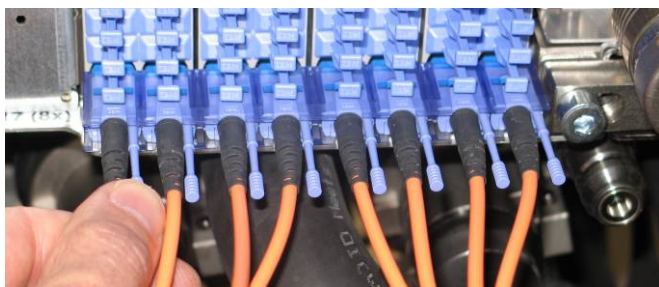
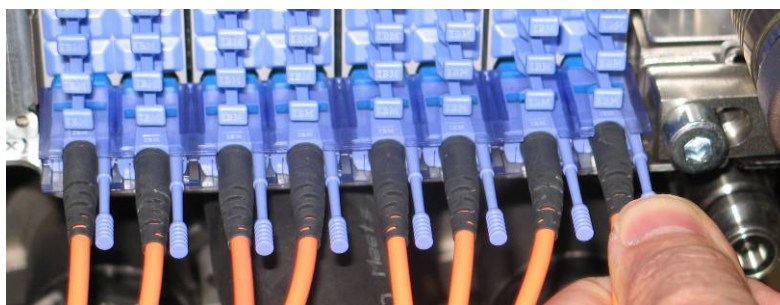
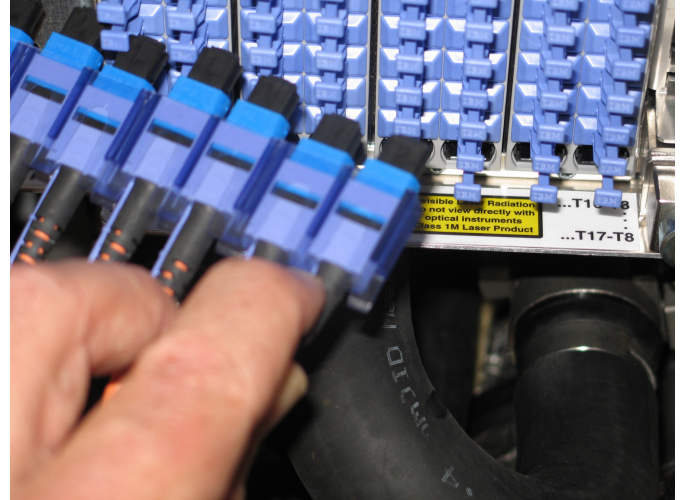

Figure 10 Unlatching connector with push/pull tab
Figure 12 Unlatching last connector in grouper
Figure 11 Bottom view of grouper
If the D-Link cables are aggregated into cable assembly groupers (see Figure 10), proceed to STEP 15.
STEP 16 Unlatch all of the D-Link Optical connectors in the grouper at one end of the cable bundle assembly from the D-Ports in the CEC drawer by pulling on the blue purple colored push/pull tab on each connector. Remove the grouper from the CEC drawer (see Figure 10 to Figure 12)
If the D-Link cable is in a grouper, unlatch all of the D-Link Optical connectors in the grouper at one end of the cable bundle assembly from the D-Ports in the CEC drawer by pulling on the blue purple colored push/pull tab on each connector. Remove the grouper from the CEC drawer (see Figure 10 to Figure 12).
- STEP 30 Remove the wrap plug and insert the cleaned connector of the D-Link cable into the D-Port at that end. Do the final actuation of the connector into the port by pushing on the push/pull tab, or by pushing on the strain relief boot at the rear of the connector (see Figure 16 and Figure 10). When D-Link cables are installed, it is important that
- STEP 34 Remove a D-Link connector from the bundle assembly groupers at both ends of the cable. Pry apart the two tabs at the upper left and lower right. This can be done with fingers (see Figure 10 and Figure 11). Once the two tabs are pried apart, pull the cable connector out of the grouper.
- STEP 39 Remove the wrap plug and plug the grouper in by positioning the grouper for the D-Link optical connectors at the proper row, inserting all connectors in the grouper into their respective D-Port adapter receptacles (see Figure 11), and clicking them all into place.